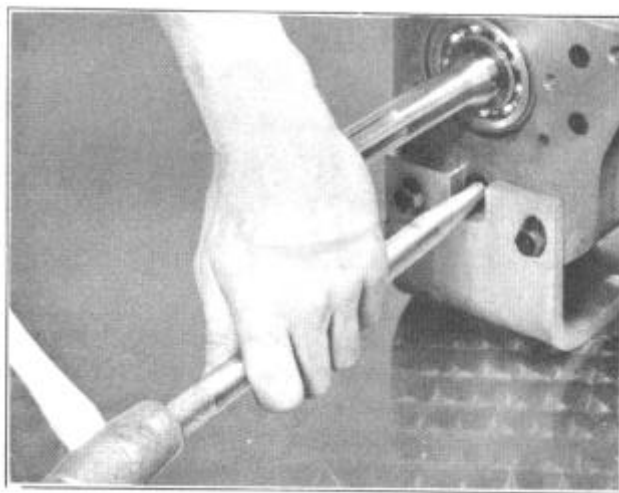

FIGURE 6
13. Drive countershaft out of rear end of case with Bronze Driver J-1574, Figure 6. Countershaft gear can now be lowered to bottom of case.